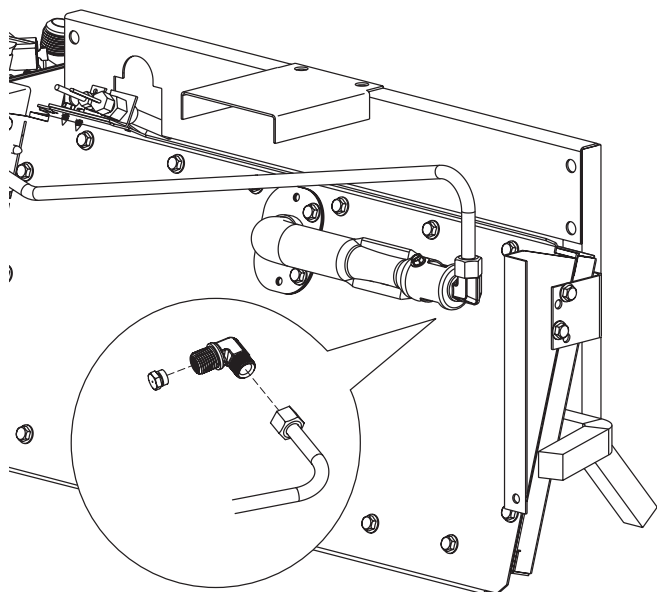

Figure 5
9. Using 9/16" open-end wrench, remove the main Burner Orifice and replace with Propane main Burner Orifice supplied in conversion kit. Set Air Shutter to FULL OPEN and reinstall Brass Elbow. **See Figure 5.**